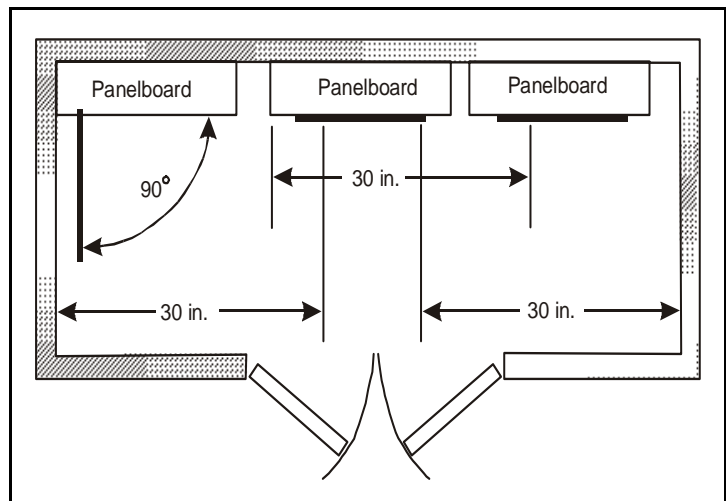

Figure 12-4.—Working space requirements for doors and hinged panels.
c. Doors and hinged panels. Doors and hinged panels must have at least at least a 90-degree opening. Keep working space clear at all times. Do not store parts, tools, and equipment (see figure 12-4).